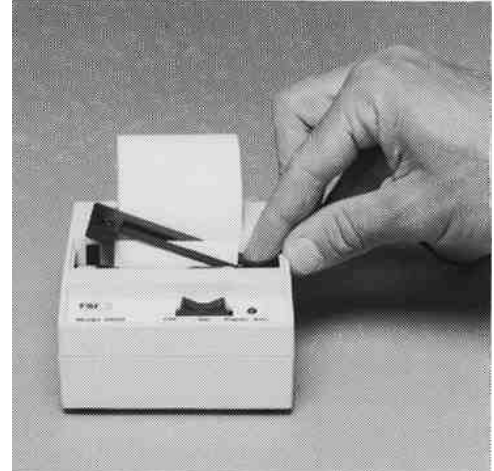

Figure VIII-2. Removing the cartridge ribbon
Step 2. Push down on the right side of the cartridge ribbon (marked PUSH) and remove the cartridge (fig. VIII-2).